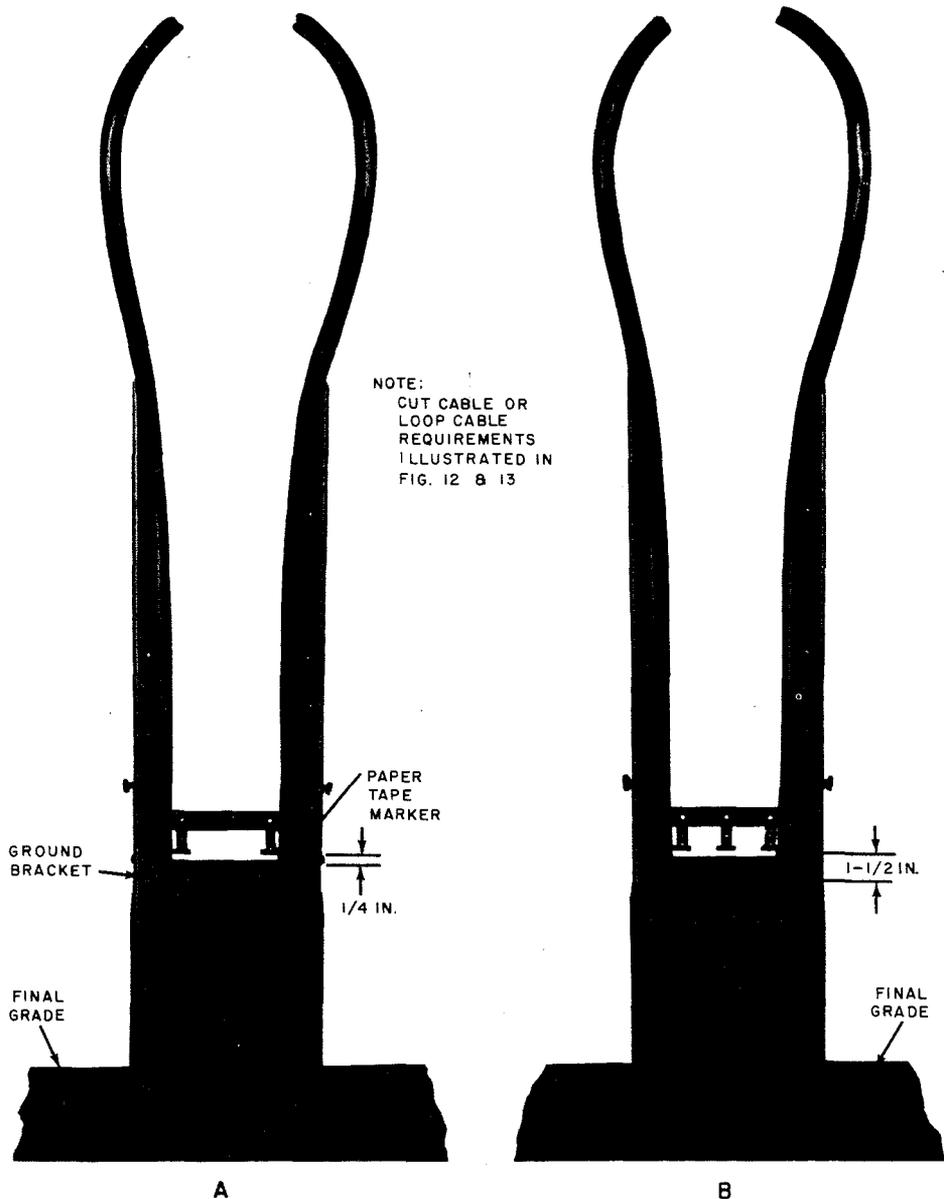

Fig. 17—Marking Cable
paper tape markers on the cable (Fig. 17). Remove the ground bracket. Place paper tape markers on
the cables 1-1/2 inch below the 1/4-inch marks (Fig. 17).
- (1) Mark the outer sheath approximately 1/4-inch above the ground bracket and place paper tape markers as outlined in 6.01 and shown in Fig. 17.
- (2) Score the circumference of the outer sheath at the 1/4-inch paper tape marker. Remove the outer sheath and shield.